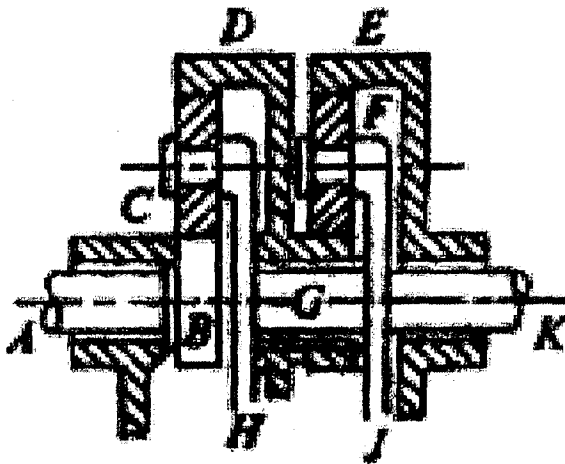

Figure 3
8. In the epicyclic gear train shown in Fig. 3, the input shaft *A* rotates at 1200 rpm in CCW direction. The internal wheel *E* is fixed, the gear *B* is keyed to the input shaft and the planet carriers *H* and *J* are fixed to the output shaft *K*. The internal gear *D* and gear *G* form a compound gear which revolves about the axis of *A* and *K*. The planet *C* is carried by *H* and the planet *F* is carried by *J*. The number of